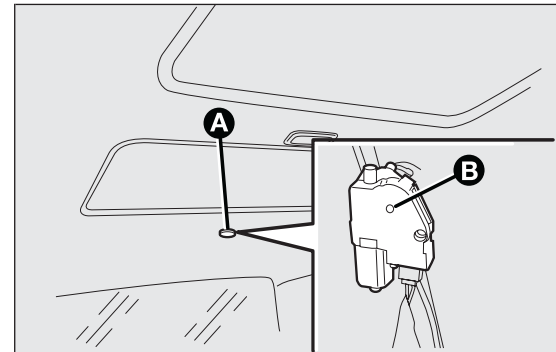

fig. 81
- remove the protective cap A fig. 81 located on the rear of the inner trim;